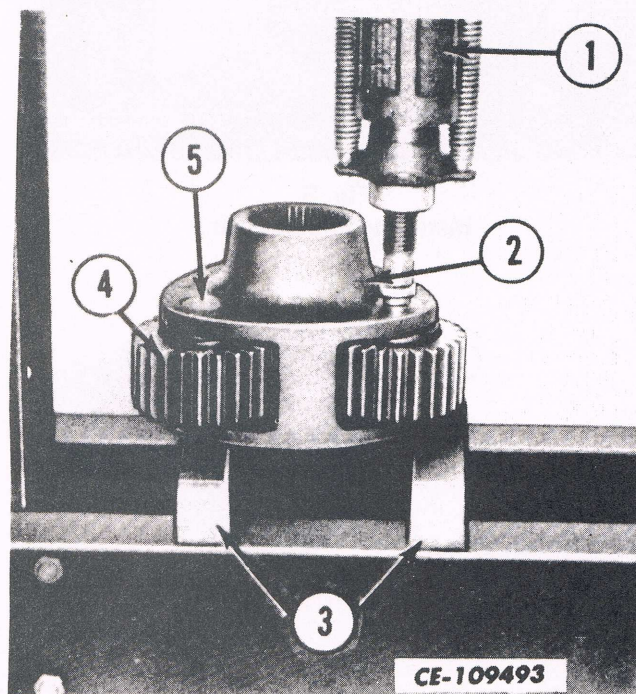

Fig. 4
1. Drive the roll pin into the planet shaft pin (5, Fig. 4) from the outside of the carrier (2, Fig.4).
3. Remove each planet gear (4) with its two roll bearing cone assemblies and carrier retainer spacer. The bearing cups are an integral part of the gear. See Fig. 4.